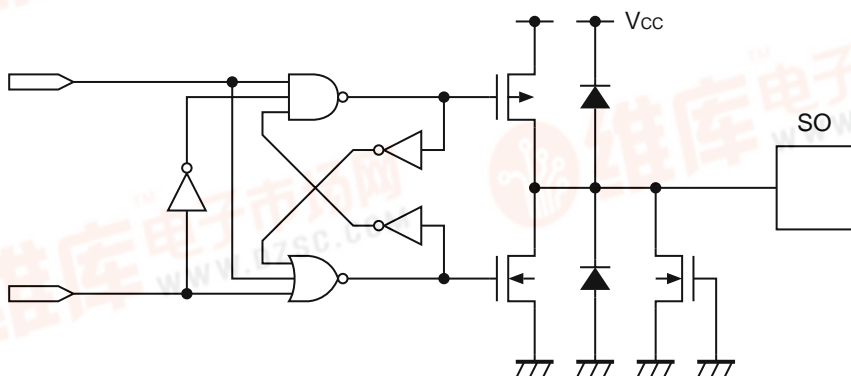

Figure 22 SO Pin
**Figure 22** shows the equivalent circuit of the output pin. This pin has the tri-state output of "H" level/"L" level/high impedance.